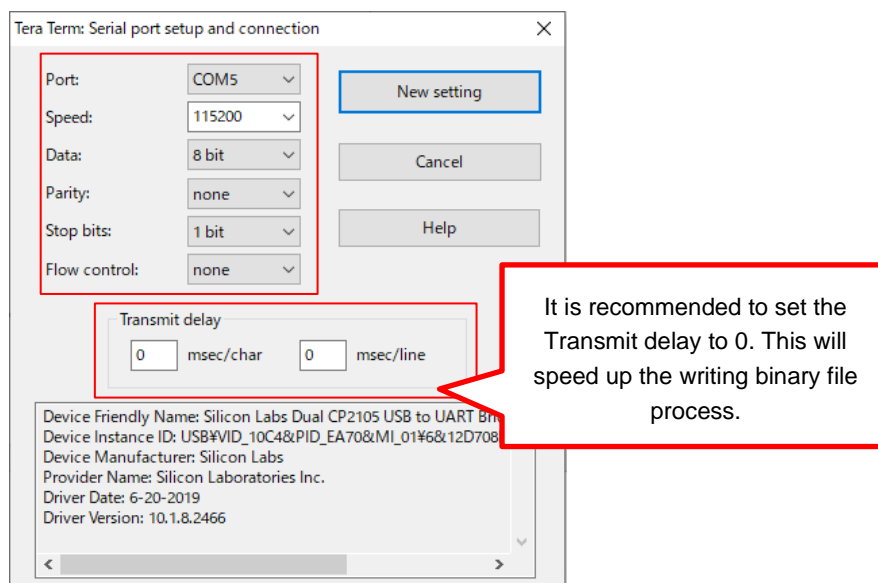

Figure 4-2. Terminal software setting
- (2) Start the terminal software on your PC. Figure 4-2 shows the setting of the terminal software.
- (3) Start the new connection. Choose "Standard COM Port" on the terminal software.
- (1) Insert the micro-SDHC card prepared in 3.1.1 into the micro-SD card slot on the RZ/V2M Evaluation Board Kit.
- (2) Set the SW2(Main) on the RZ/V2M Board as shown in Figure 4-2 and Figure 4-3 to change the board operation mode to "forced write mode".